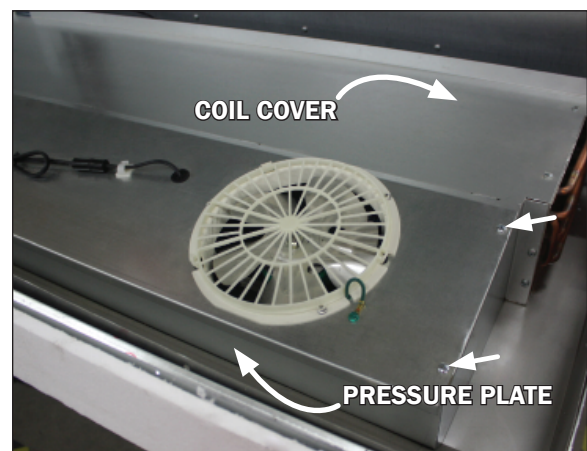
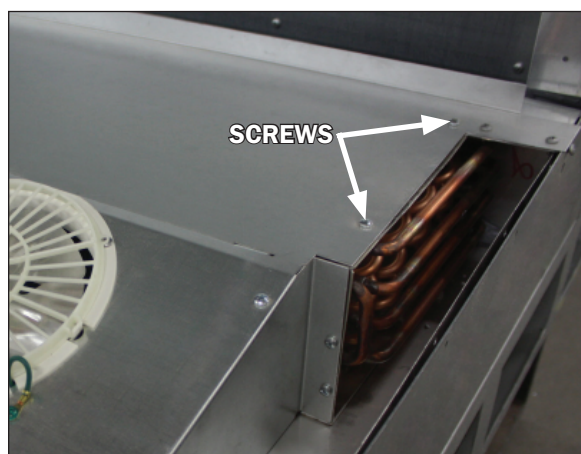

Fig. 22 Pressure plate, screw locations and coil cover (topside)
Fig. 25 Coil cover removal
2. To access the underside of the fans first remove the screws on the top ends and front sill of the pressure plate cover (Fig. 22). Lift the pressure plate by use of the
2. Remove the top two screws at both ends of the coil cover (Fig. 25), as well as the screws from the top ends and front sill of the pressure plate cover (Fig. 22). **Be sure to save the removed screws for reassembly.**